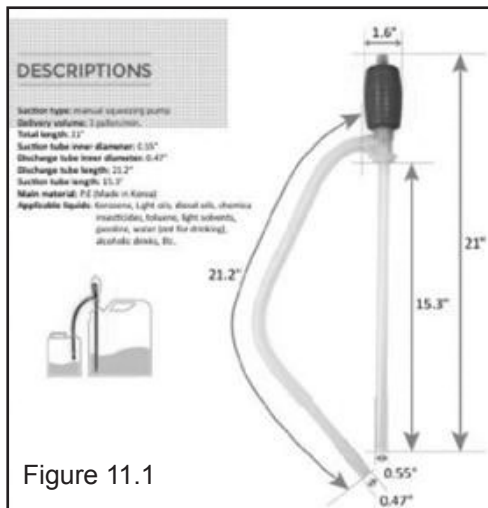

Figure 11.1
2. Using an approved siphon (Figure 11.1), remove the Paraffin or diesel.